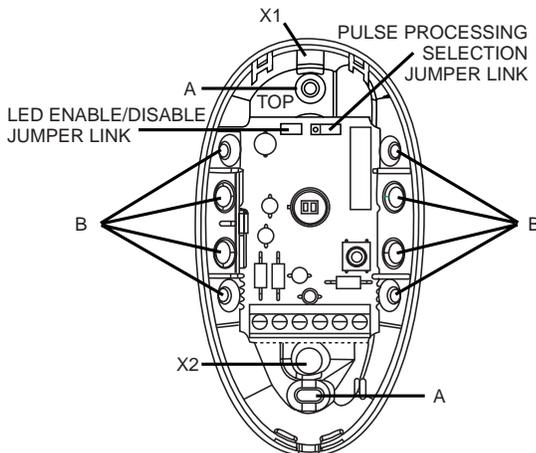
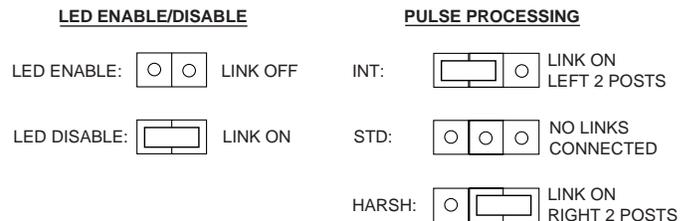

Figure 3. Detector Base
Figure 6. Selectable Options
2. Refer to Figure 3. Knockout holes "A" in the base are for normal surface mounting on a wall (remove PC board for full access to holes). For corner mounting, see **B. Corner Mounting**. Also break out the desired wire entry hole at this time, marked X1 or X2 in Figure 3.
See Figure 3 for location of LED enable/disable jumper link. To enable the LED, remove the LED enable/disable jumper link. To disable the LED, replace the jumper link. See Figure 6 for proper positioning of the link.
See Figure 3 for location of Pulse Processing selection jumper link.
1. Remove front cover and set Pulse Processing Option to the setting that will be used for this detector in the installation. The LED must be enabled at this time (see Figure 6).
After the Walk-Test is complete, the LED may be disabled (see Fig. 6).
Remedy: Remove LED jumper link (see Figure 6).